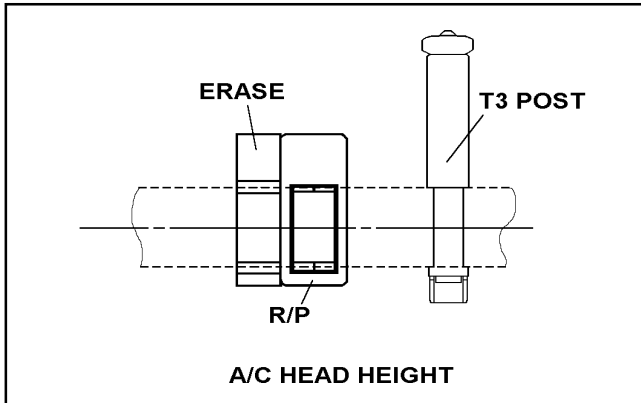

Figure 3-13-2
2. Perform the Height and X-value adjustment under the screw (G) tightened completely.
3. Be careful the tape damage at T3 Post, when adjust tilt of A/C Head. (refer to figure 3-13-2)